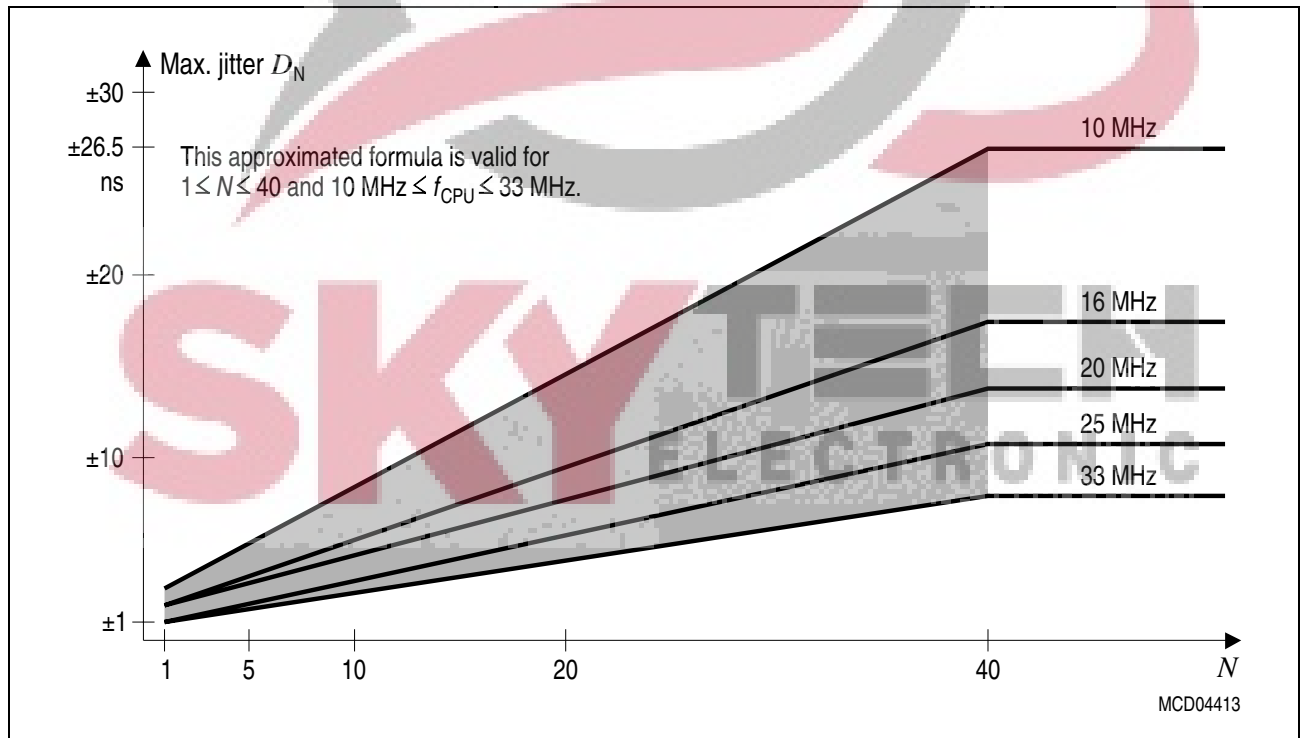

Figure 11 Approximated Maximum Accumulated PLL Jitter
The actual minimum value for TCL depends on the jitter of the PLL. As the PLL is constantly adjusting its output frequency so it corresponds to the applied input frequency (crystal or oscillator) the relative deviation for periods of more than one TCL is lower than for one single TCL (see formula and **Figure 11**).
*Note: For all periods longer than 40 TCL the $N = 40$ value can be used (see **Figure 11**).*